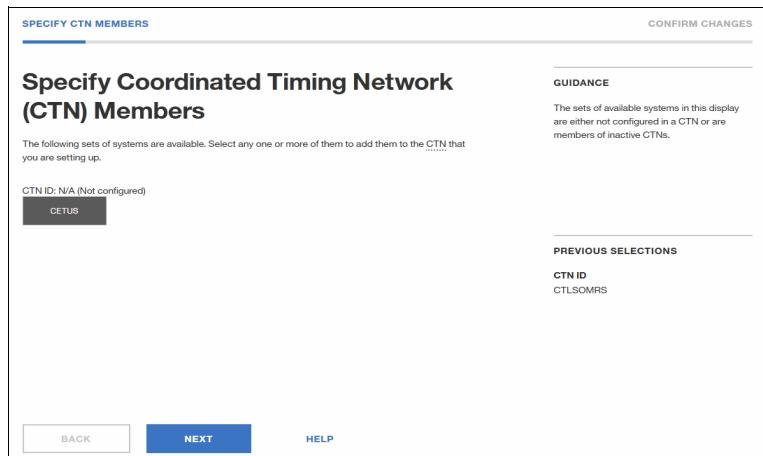

Figure 8-56 Manage System Time: Specify Coordinated Timing Network (CTN) Members
2. The **Specify Coordinated Timing Network (CTN) Members** window opens. In this window, select the CPC name that does not belong to any CTN (CETUS). Click **NEXT** to continue (Figure 8-56).